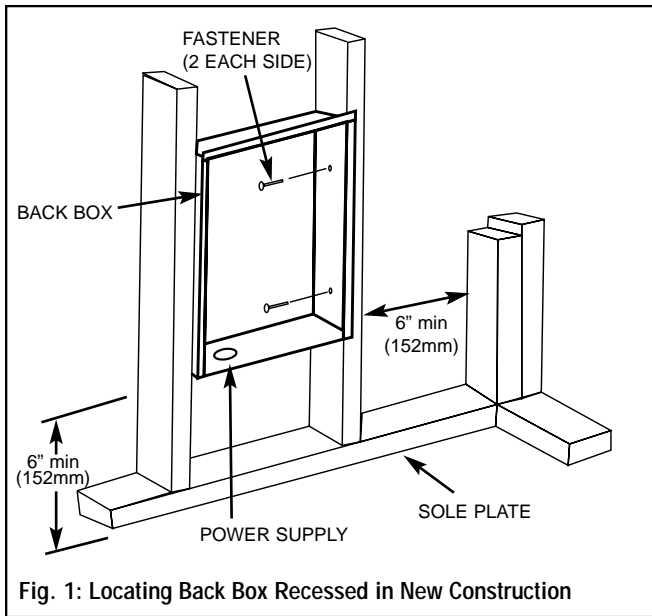

Fig. 1: Locating Back Box Recessed in New Construction
1. Mounting Back Box (See Figure 1).
- d. Adjust back box such that the top, bottom, and sides will be flush with the finished wall surface. Secure the back box in position with wood screws or nails as shown in Figure 1.
2. Power Supply Wiring (See Figure 1).